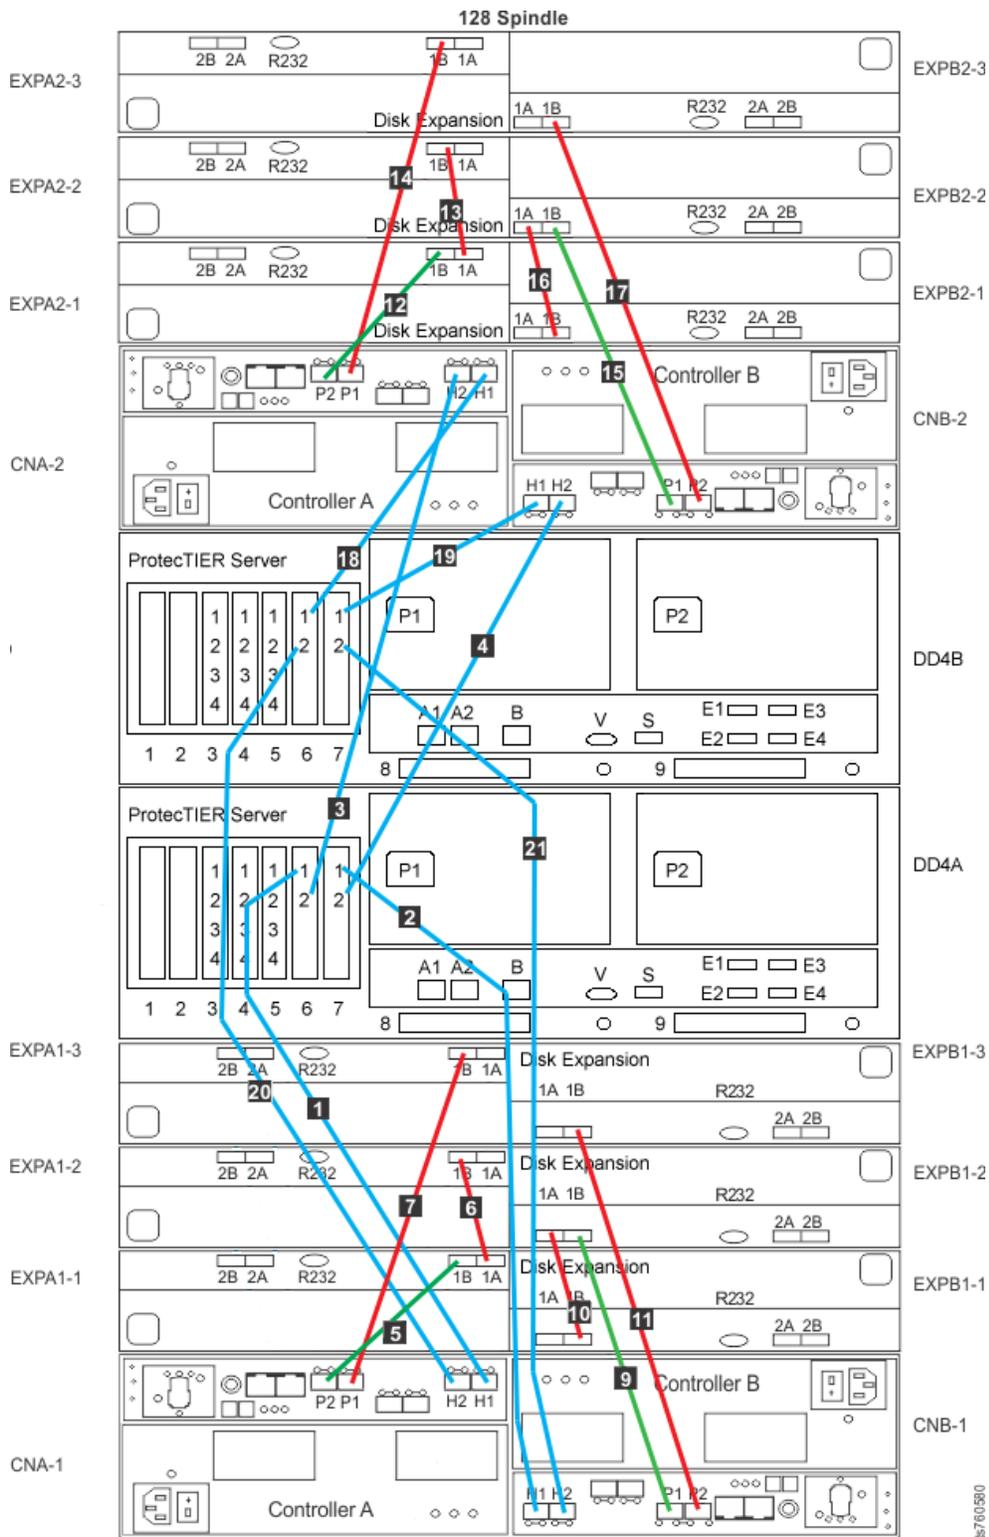

Figure 28. Clustered fibre channel connections for OpenStorage configuration
1. Connect fibre channel cables according to Table 25 on page 68 and Figure 28 on page 67.
2. Use Table 25 on page 68 and Figure 28 on page 67 to verify that the recommended disk components are cabled correctly. (Connections to the customer's host network not shown).